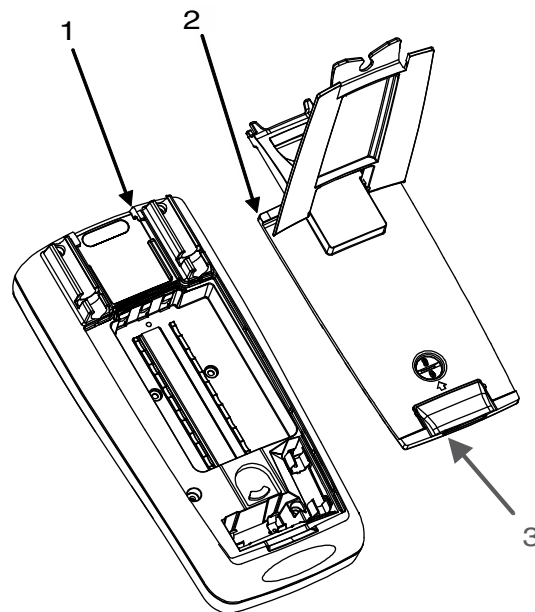

Figure 2. Multimeter Rear Cover
3. Guide the upper portion of the multimeter rear cover (Figure 2., Item 2) into the slots of the multimeter body (Figure 2., Item 1). Lower multimeter rear cover into place. Ensure that the multimeter rear cover is flush with the multimeter body.